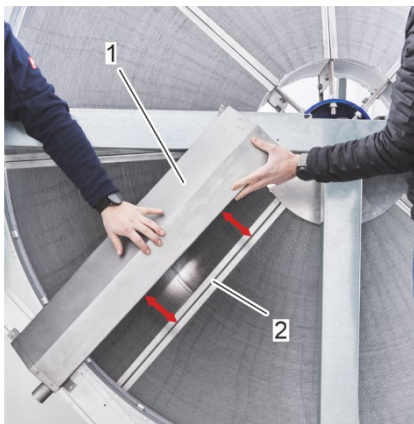
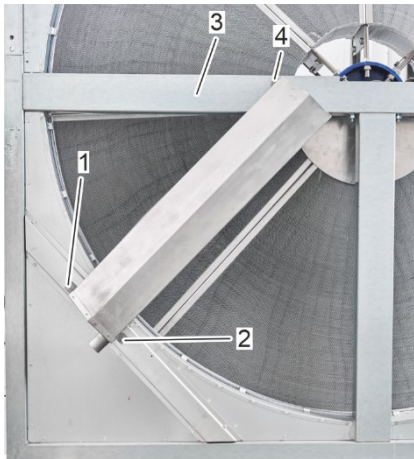

Fig. 52: Check parallelism of the drip pan
Fig. 54: Drip pan drill holes
5. Before attaching the drip pan (Fig. 52/1), check the parallelism between the drip pan (Fig. 52/1) and the rotor segment (Fig. 52/2) and align if necessary.
*It is helpful to fix the drip pan (Fig. 52/1) to the horizontal beam (Fig. 54/3) and to the crossbeam (Fig. 53/1) of the rotor frame with suitable clamps before fastening it so that it does not slip during the screwing process*
6. Use self-tapping screws (Fig. 53/2) to fasten the drip pan (Fig. 53/3) to the crossbeam (Fig. 53/1) and to the horizontal beam (Fig. 54/3) of the rotor frame using the existing drill holes (Fig. 54/1,2,4).